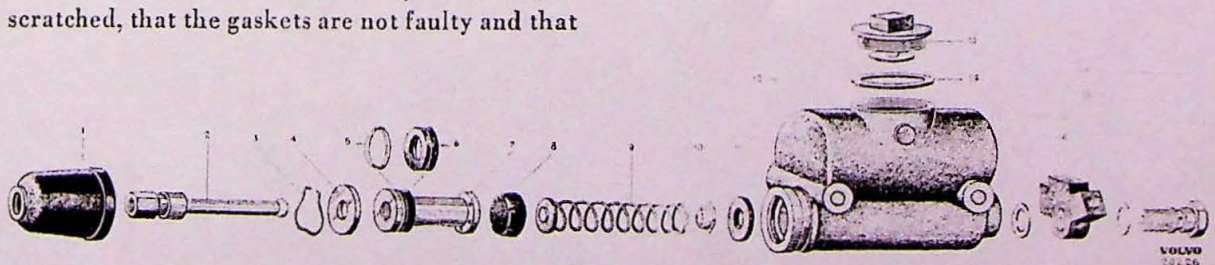

Fig. 6. Master cylinder.
1. Loosen the master cylinder rubber cover (1, Fig. 6) and remove the push rod (2) and rubber cover.
2. Remove the lock ring (3) and stop washer (4) for the plunger (7).
3. Take out the plunger, gasket (8), return spring (9), valve (10) and gasket (11). On late production models (from chassis no. 6141 onwards) the valve is attached to the return spring.
4. Remove the three-way junction (16) and the brake contact.